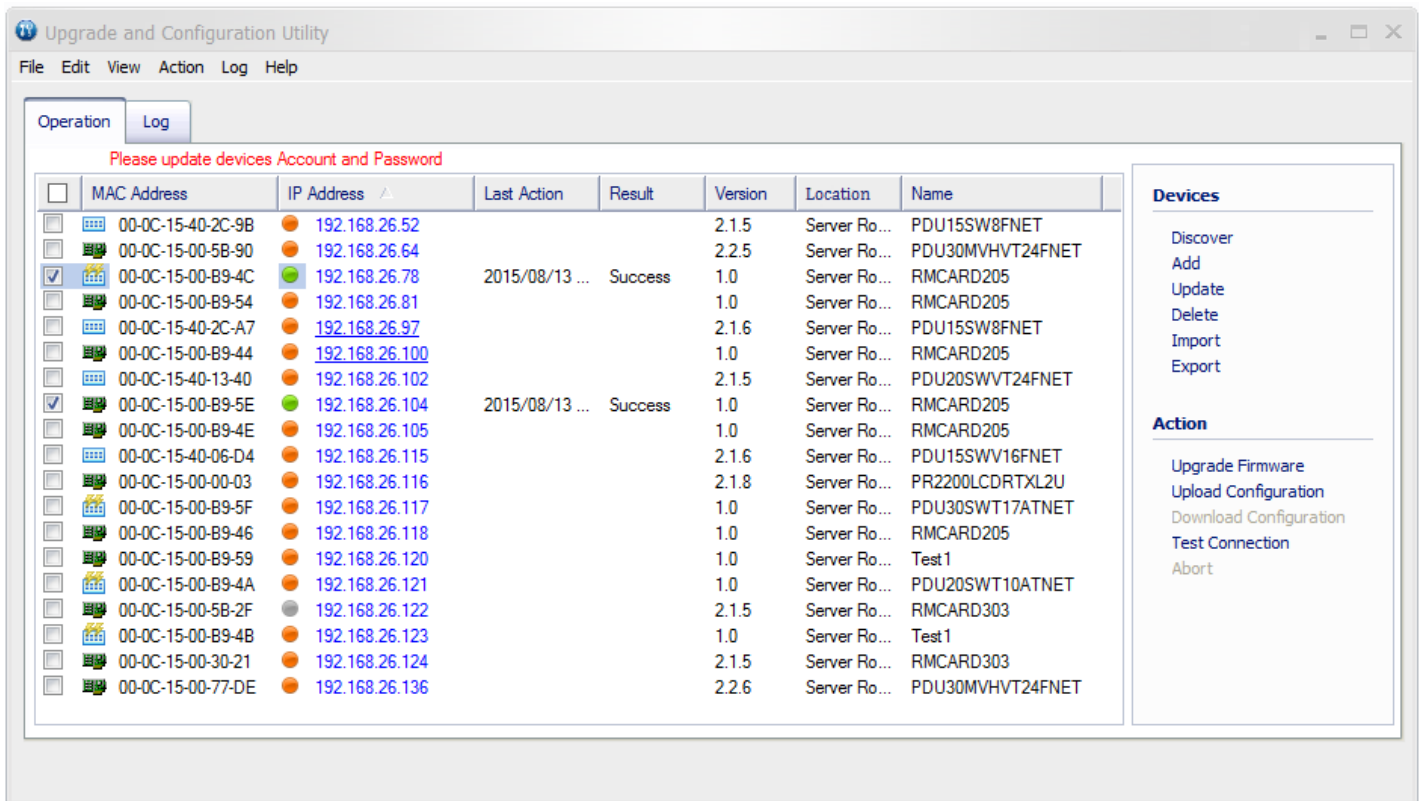

Figure 7. Firmware upgrade successfully in the main window.
7. If the firmware upgrade is implemented, you will see the Result in the main dialog, as shown in Figure 7.